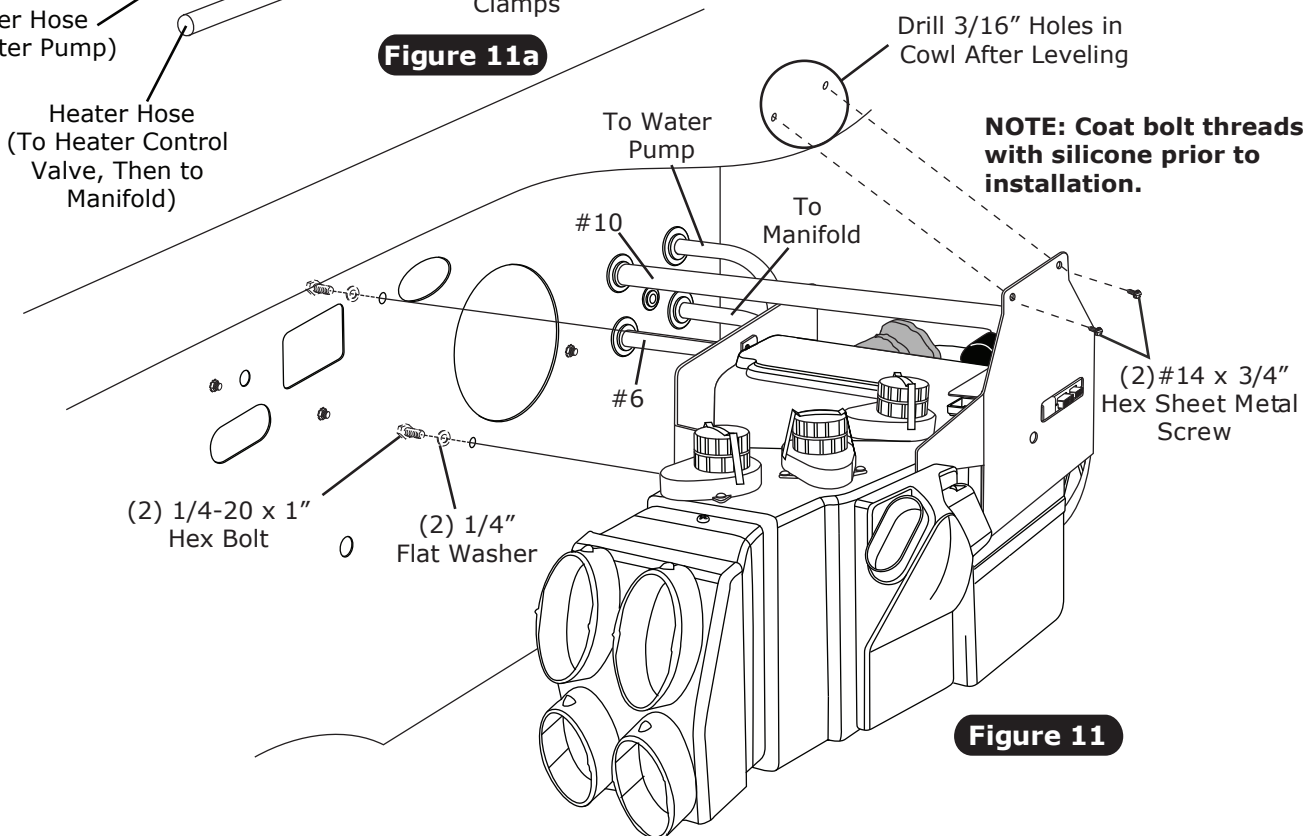

Figure 11
2. Lift evaporator unit up under the dashboard. Secure loosely to firewall using (2) 1/4-20 x 1" hex bolts and flat washers (See Figure 11, below). **NOTE:** To ensure proper drainage, it is very important that the evaporator is level, both left-right and fore-aft. Check for level on the flat portions of the case around the drain.
3. Using front evaporator bracket as a guide, mark and drill (2) 3/16" holes in cowl (See Figure 11, below).
4. Using (2) #14 x 3/4" hex sheet metal screws, secure the front evaporator mounting bracket to the cowl (See Figure 11, below).